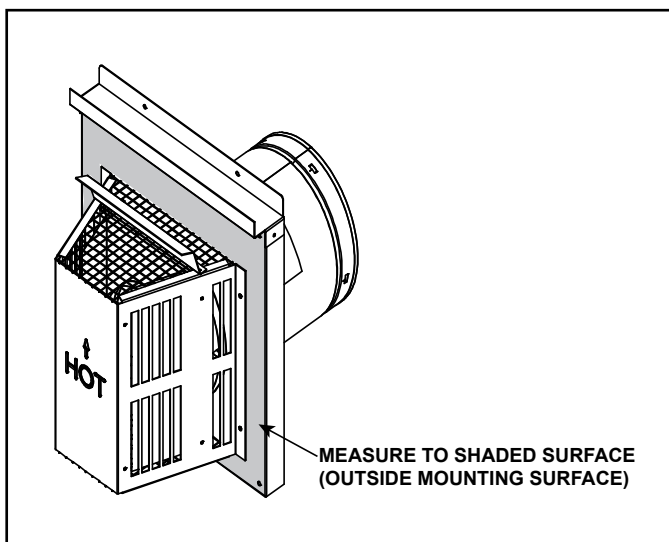

Figure 4.6 Measure to Outside Mounting Surface
- Horizontal terminations are measured to the outside mounting surface (flange of termination cap). See Figure 4.6.